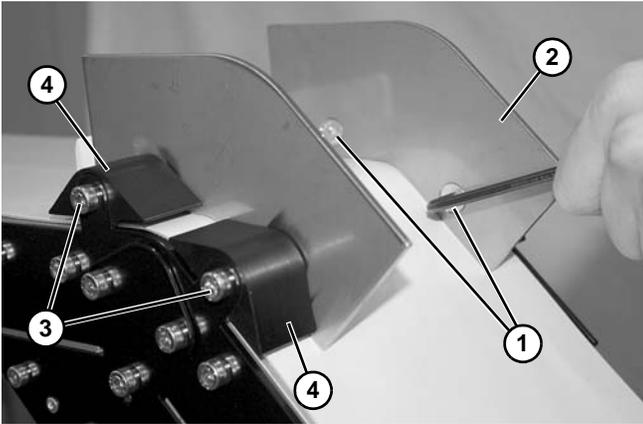

Figure 62
3. If equipped with an upper knuckle, remove screws (**Figure 62, item 1**) and remove guard (**Figure 62, item 2**) on both sides of knuckle.
4. Remove screws (**Figure 62, item 3**) and remove spacers (**Figure 62, item 4**) on both sides of knuckle.